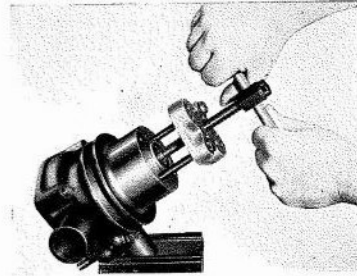

Fig. Q.2.
2. Using tool PD155—remove the water pump pulley from the front of the shaft. See Fig. Q.2.